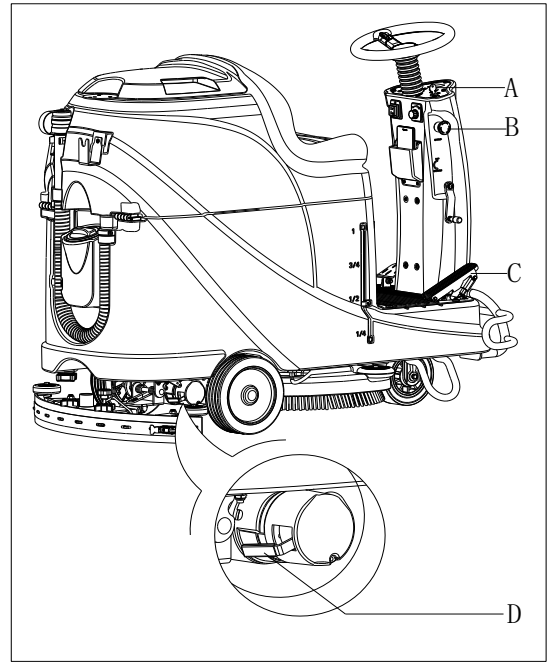

Figure 9
1. Turn the key switch (A, Figure 9) to "ON"
2. Depress the accelerate pedal (C) slightly then loosen it to check if the machine can be steered forward and stopped.
3. To ensure the security, confirm if the machine can be stopped immediately by pressing the emergency button (B). Rotate the emergency button to reset it.
- Brake unstuck - the brake handle (D, Figure 9) switched to upper location.